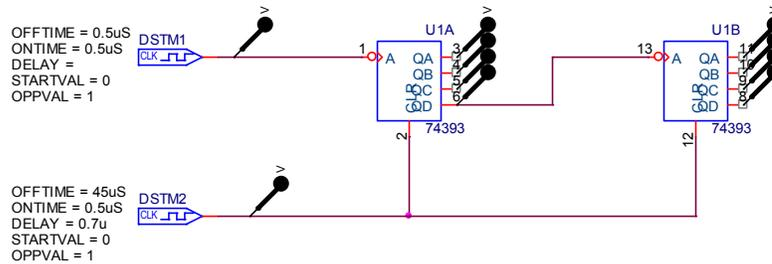

Figure C-3.
- Simulate the circuit in Figure C-3 in PSpice.